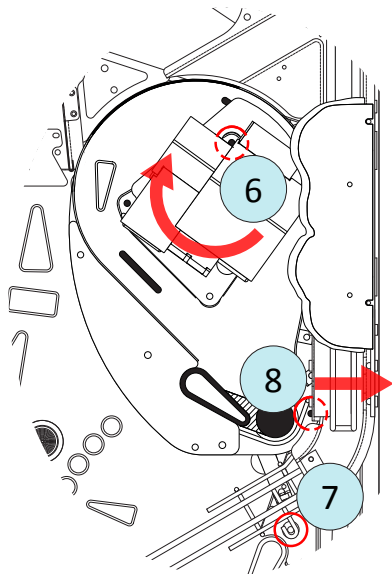

Figure E7. Munchkinland playfield removal, illustration 3.
6) Continue to manually rotate the house (CW) until the same open corner is aligned with the second of three screws holding the Munchkinland playfield down (as shown in figure E7). Using the same 1/4” nutdriver or Phillips screwdriver as in step 5 above, remove this screw. Again, a magnetic pickup tool can be used to help pull the screw out of its hole.
7) Using an 11/32” nutdriver, loosen the locknut holding the top end of the Emerald City exit wire ramp (circled in figure E7). Do not remove the locknut.
8) Flex the Emerald City plastic ramp (in the ball lock/Munchkin huts area) outward while removing the third of three screws holding the Munchkinland playfield down (circled in figure E7). Use the same 1/4” nutdriver or Phillips screwdriver as in steps 5 & 6 above.